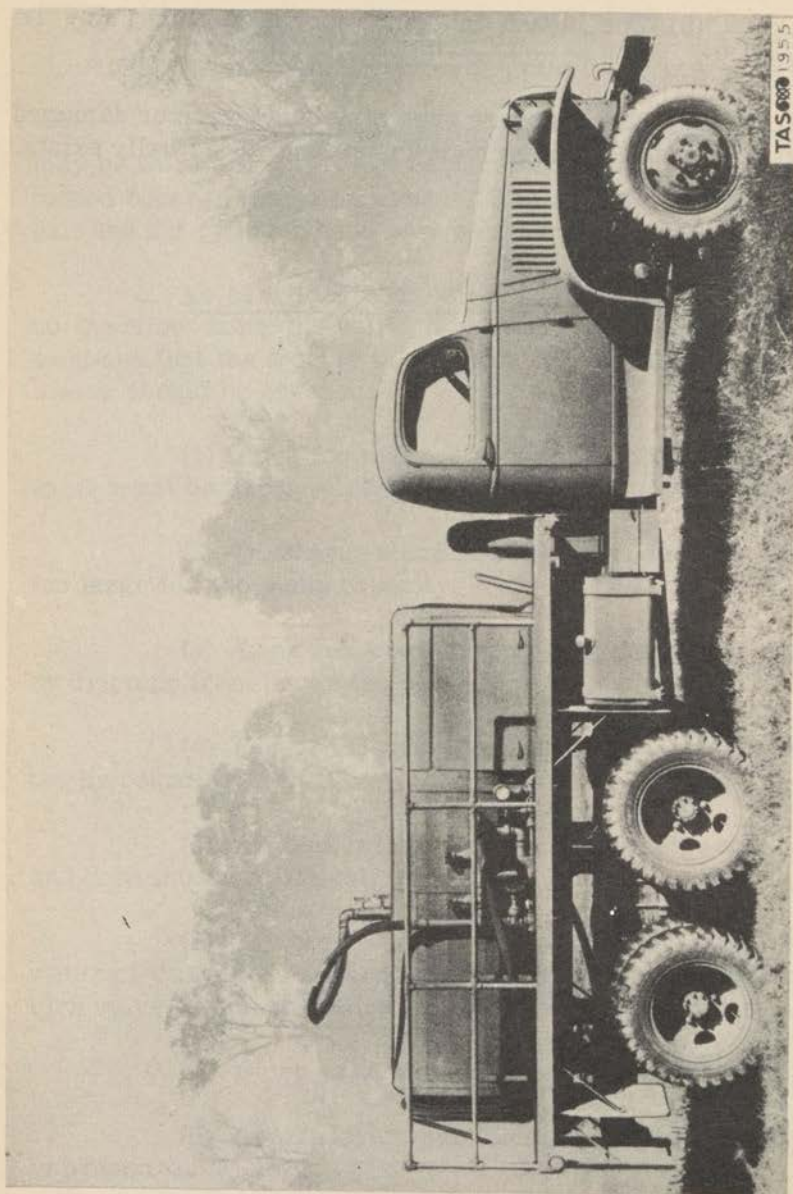

Figure 129. The "Friend" M3A1 400-Gallon Power-Driven Decontaminating Apparatus.
17. DESCRIPTION. a. General. The "Friend" M3A1 apparatus has its own distinctive pump and automatic pressure controller. It can be identified by means of a name-plate on the top front side of the pump. (Fig. 189) It may also be identified by the location of its valves. No valves are on the left side of the apparatus, but four large gate valves and a pressure gage are placed on the right side of the 400-gallon tank. (Fig. 129)
e. Pump clutch. The clutch is a plate-sleeve type, and is operated by a lever on the side of the truck between the cab and the pump housing. (Fig. 129) The clutch is engaged by shoving the clutch lever toward the rear of the truck.